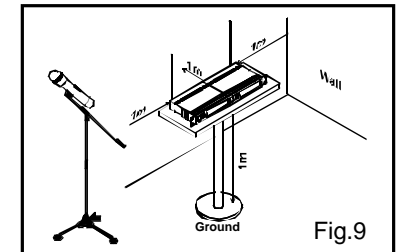

Fig.9
4. Make sure the system performs correctly, please place the system away from noise sources. Place the receiver at least 1 meter above the ground and away from noise sources. Place the microphone at least 1 meter away from the receiving antenna, as shown in Fig. 9.